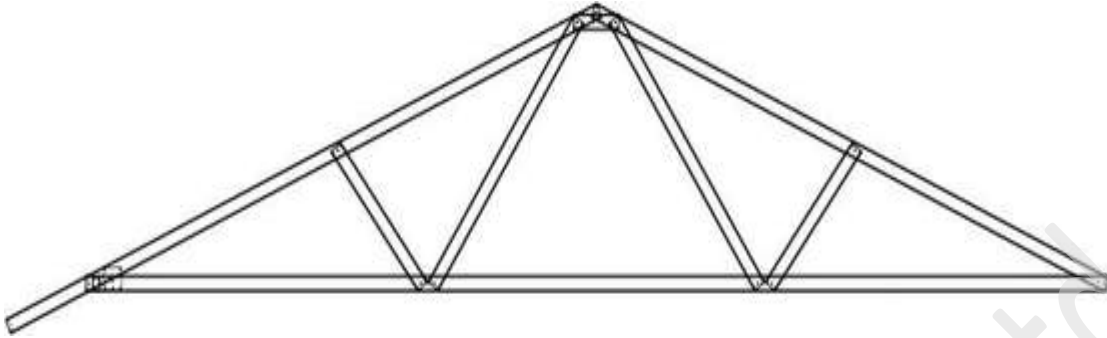

Figure 5.5 Bridge Truss
5.4) Bridge Truss: This truss type can be either a standard truss or a truncated truss with the overhang removed at the heel. A TBJ45 bridge bracket is fitted to connect the truss to a beam or girder truss (Refer to **Figure 5.5**).